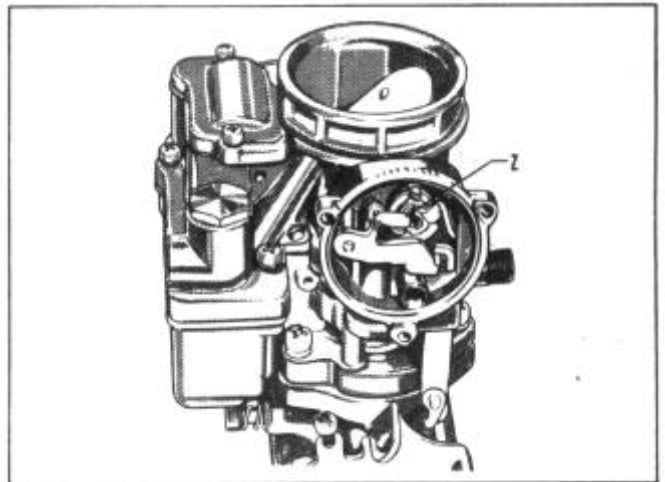

FIGURE 92
28. Check the unloader adjustment as follows: With the throttle valves wide open, bend lip (Z), Figure 92, on choke trip lever to get clearance between top edge of choke valve and inner wall of air horn. See Page 4-17, "Covering Unloader Adjustment."